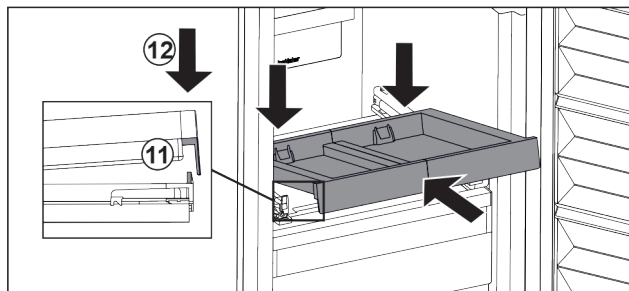

Fig. 127
- ▶ Slide it in at an angle. Make sure that the stop is behind the lug on both sides. Fig. 127 (11)
- ▶ Lower the pull-out board at the front. Fig. 127 (12)